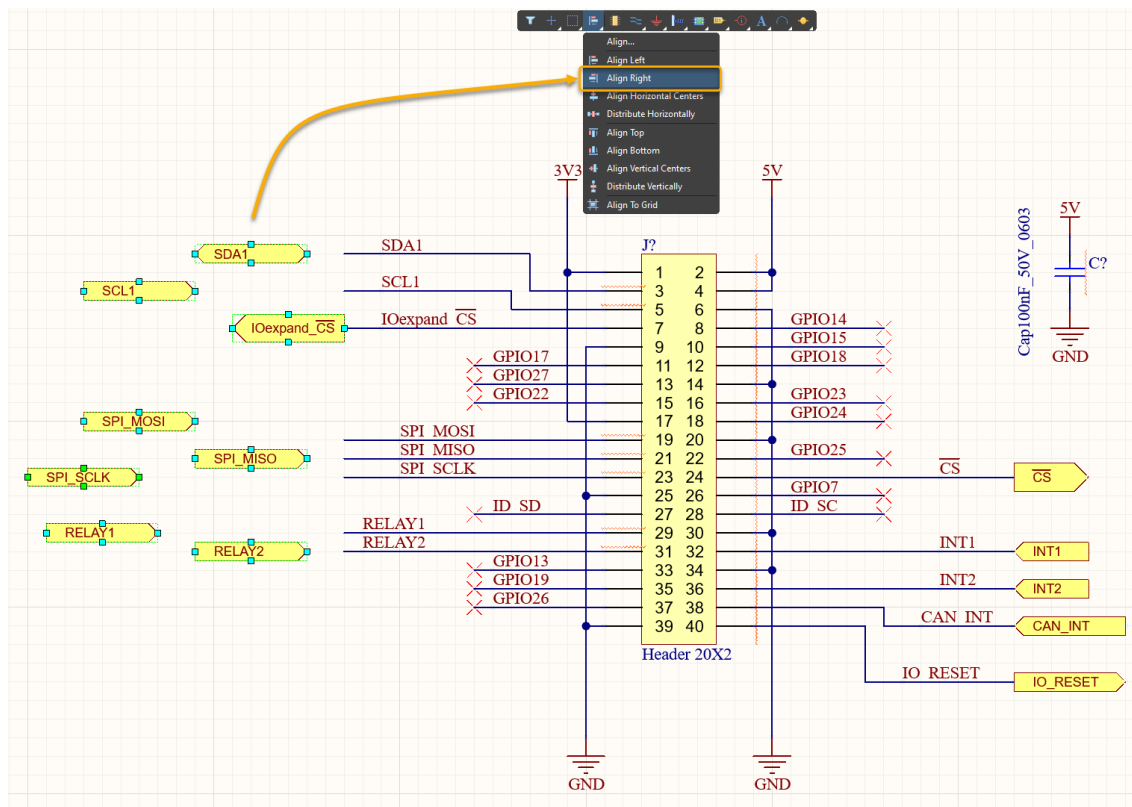

Figure 1. Align for unconnected Ports
11. Go to **Edit » Align » Align Right** or use the **Active Bar** to align the ports, Figure 1.